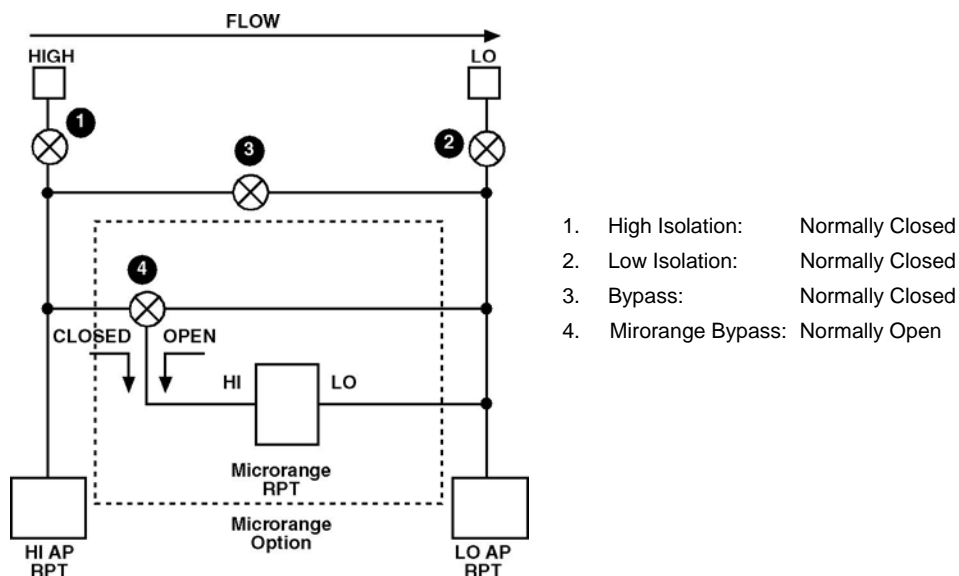

Figure 17. molbox RFM Valving Assembly Schematic
The valving module (see Figure 17) consists of a manifold equipped with three 12 V, 2-way, solenoid valves. The valves connect and disconnect the RPTs to the UP (HI) and DOWN (LO) rear panel ports and bypass the two ports together. If molbox RFM is equipped with the microrange option, a fourth (3-way) solenoid valve puts the microrange differential RPT into and out of service (bypassed or not bypassed).